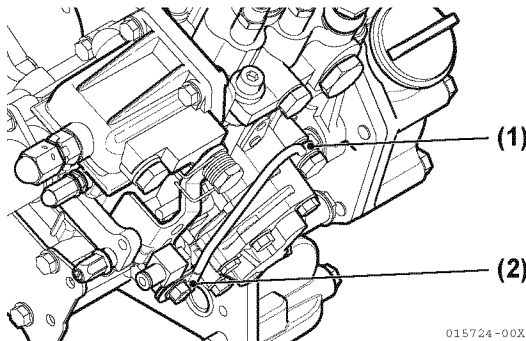

Figure 6-49
8. Reconnect the lubricating oil line (**Figure 6-49, (1)**) and clamp (**Figure 6-49, (2)**).